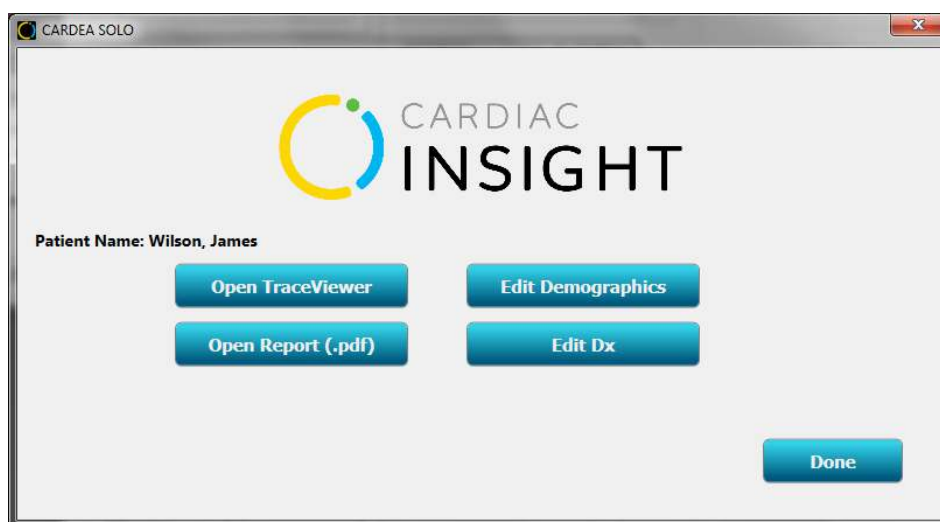
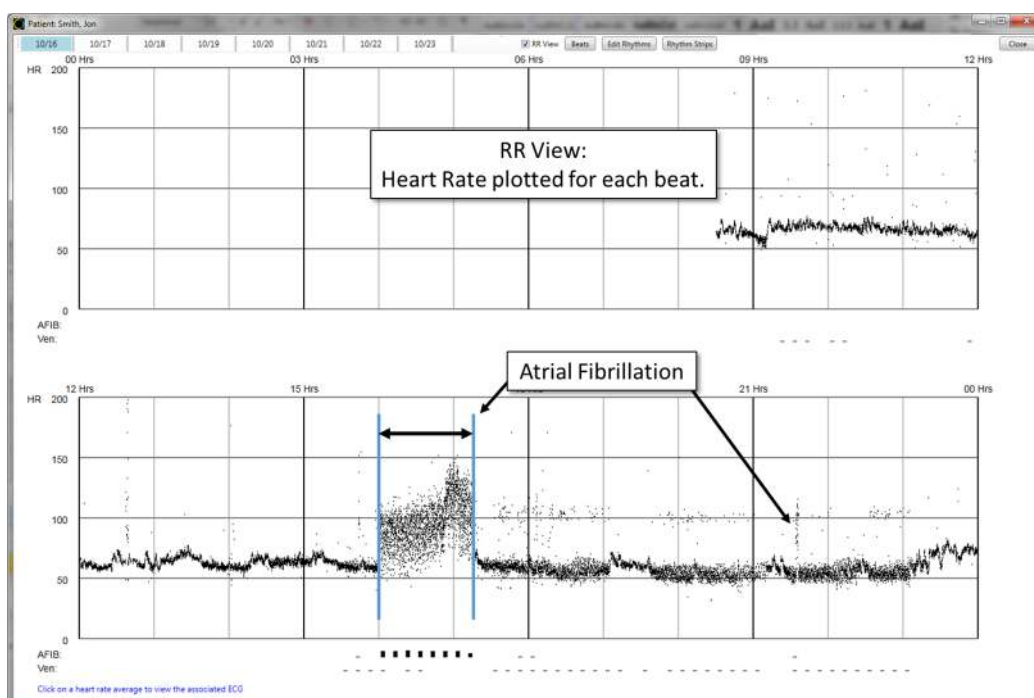
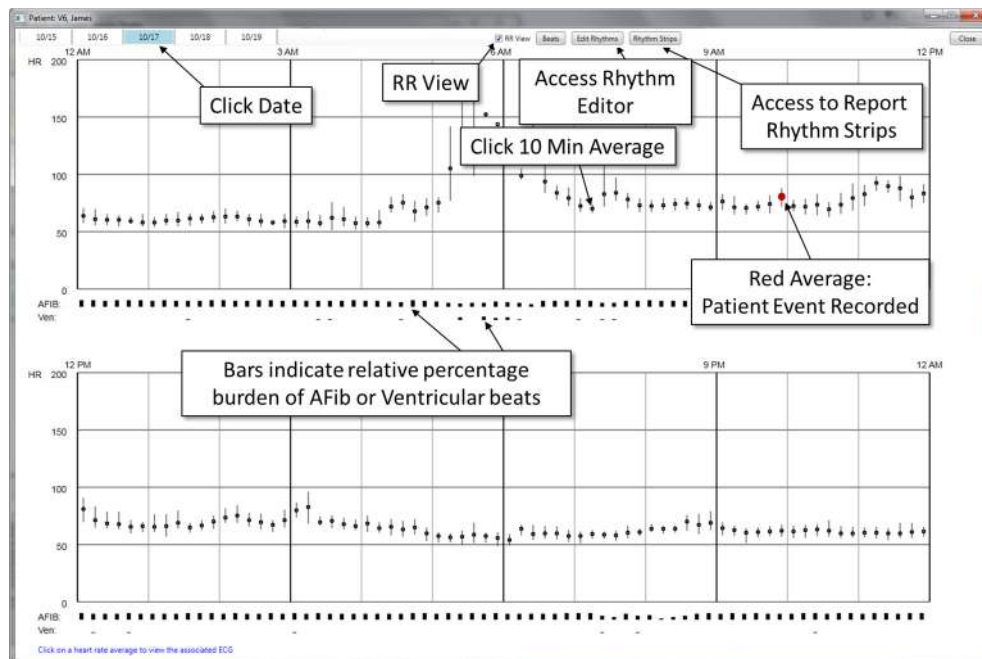

Figure 7.1. Report Review Options menu.
Figure 7.2. RR View showing heart rate for every RR interval.
Figure 7.4. TraceViewer, day averages view.
This section will lead you through the tools to review the ECG trace data, update or correct demographic or diary data entry errors, edit the proposed diagnostic summary and finalize the draft PDF report. Following presentation of the draft PDF report, **Cardea SOLO** Software will present a menu of options to support interactive review and any required edits of the summary finding, Figure 7.1.
The ECG TraceViewer has been designed to support rapid access to any 10 second strip in the entire recording. Clicking on the Open TraceViewer button, Figure 7.1, presents the TraceViewer, Figure 7.2.
**RR View.** RR View is the default display format. Click any Date (upper left) tab to access the RR View for that date (top left on screen). This display format provides a powerful way to visualize and identify changing rhythms. In the below example, the onset and termination of atrial fibrillation is clearly seen. Clicking on any point in the RR View displays the associated 10-minute ECG traces. Clicking the “RR View” checkbox, upper right in Figure 7.2, toggles between the RR View (heart rate plotted for every individual beat) and Avg HR View (the average 10-minute heart rate symbols), Figure 7.4 below.
**Avg HR View.** The panels in Figure 7.4 show 10-minute heart rate averages (black dots) and ranges (vertical lines) for the selected Date tab (top left on screen). Click any date to access the averages for that date. The average dot is color coded red when the 10-minute record contains one or more patient event button pushes, as recorded by the Sensor. Below the 12-hour panels (midnight to noon, and noon to midnight) are bars representing the relative burden of Atrial Fibrillation and Ventricular beats, providing a quick overview of where in the overall ECG record **Cardea SOLO** Software thinks something of interest has occurred.
Clicking the “Close” button on the top right will close the TraceViewer and return to the Report Review Options menu, Figure 7.1.
**Rhythm Editor:** Cardea SOLO supports editing of episodes of Atrial Fibrillation, Ventricular Tachycardia, Supraventricular Tachycardia and Pauses. New episodes can be inserted into the interpretation or modified or deleted. The Rhythm Editor is accessed by clicking on the Edit Rhythm button, located at the top-center of the TraceViewer window, figure 7.2 above.